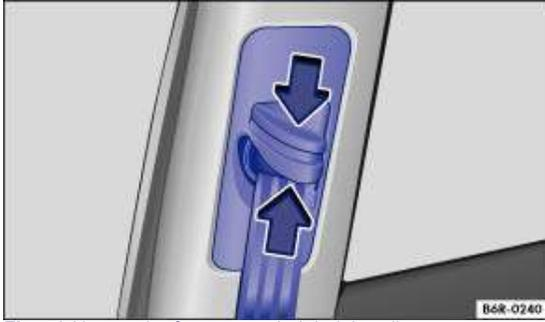

Fig. 58 Next to the front seats: belt height adjuster
- Push the shoulder belt guide together in the direction of the arrows and hold → Fig. 58.